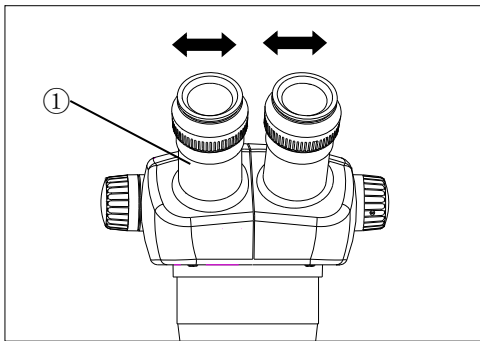

Fig. 7
3.1.1 Adjusting interpupillary distance (Fig.7)